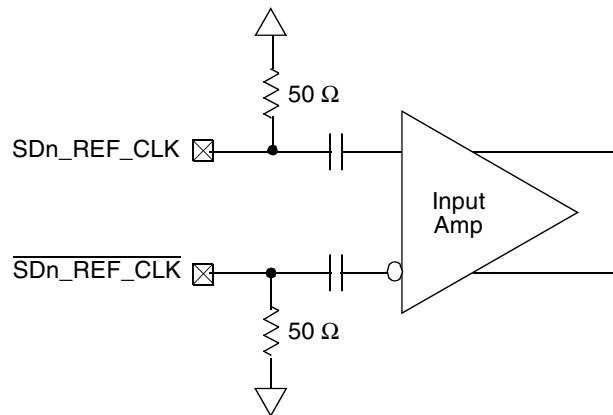

Figure 58. Receiver of SerDes Reference Clocks
Figure 58 shows a receiver reference diagram of the SerDes reference clocks.
- The $\overline{SDn_REF_CLK}$ and SDn_REF_CLK are internally AC-coupled differential inputs as shown in Figure 58. Each differential clock input ($\overline{SDn_REF_CLK}$ or SDn_REF_CLK) has a 50- Ω termination to SGND (xcovvss) followed by on-chip AC-coupling.